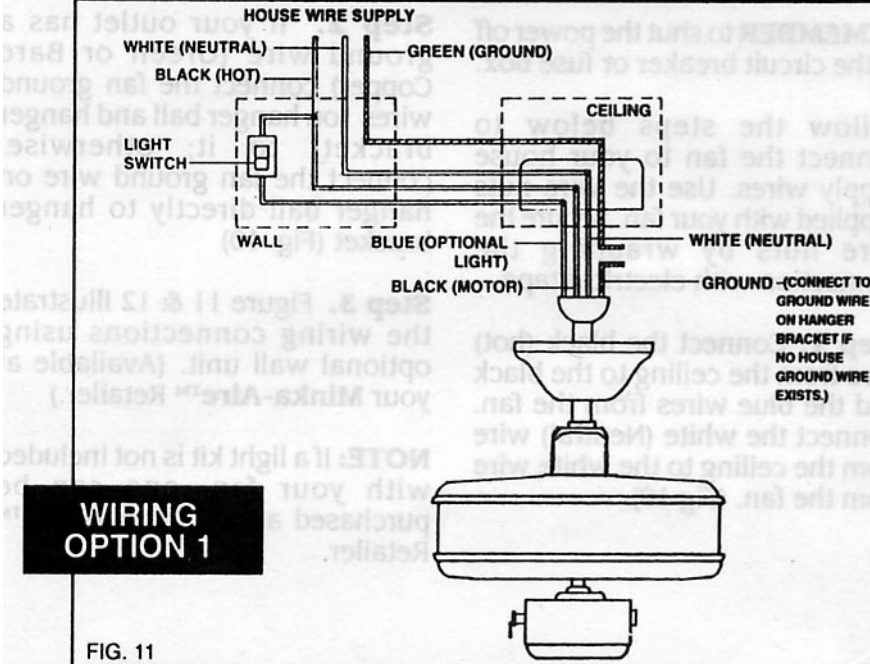

FIG. 11
Step 3. Figure 11 & 12 illustrate the wiring connections using optional wall unit. (Available at your **Minka-Aire™** Retailer.)